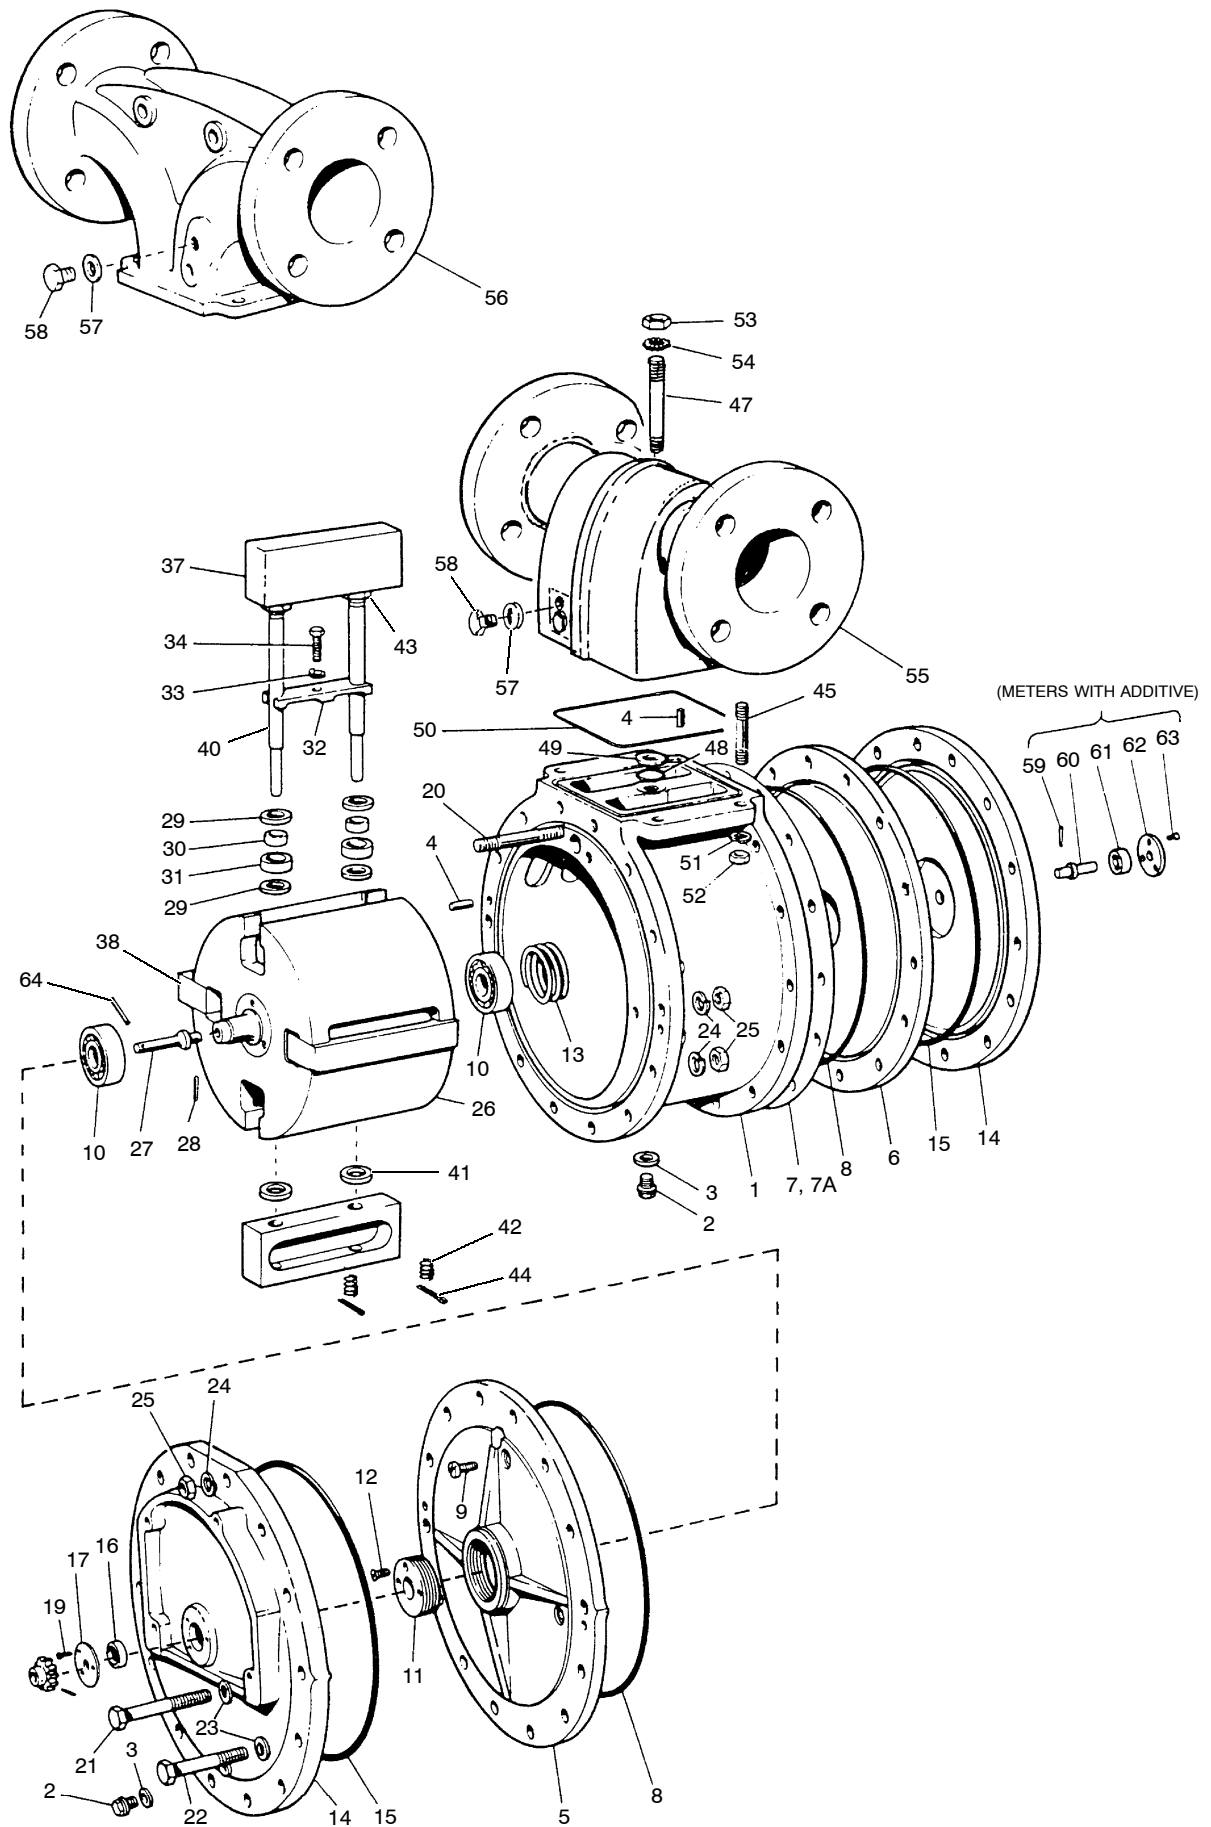

FIG 5.2 BULKMETER COMPONENTS
Procedures are described in respect to a single capsule meter (Figs 5.2 and 5.4 refer), double and triple capsule procedures are identical except for extra drain plugs and separation of body casings which is only necessary to renew gaskets.
- 2.2 Refer to Fig 5.2. Remove the drain plug(s) (2) and washer(s) (3) from the body casing. In the case of water meters also remove the drain plugs from the front and rear covers (14). Allow product to drain fully then loosely refit drain plugs and washers.